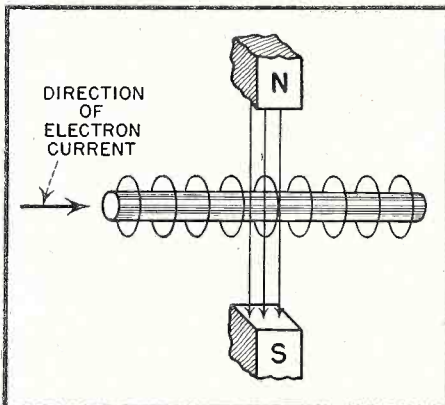

Fig. 2. Magnetic field influencing stream
3. (p 13) Consider Fig. 2. This is the same as Fig. 1, except that a horseshoe magnet has been placed in such fashion that its end poles set up vertical magnetic lines of force as shown. How does this new field affect the electron beam? Would it move the beam itself, or only the beam's magnetic field? Whatever it does move—which direction does it move it: